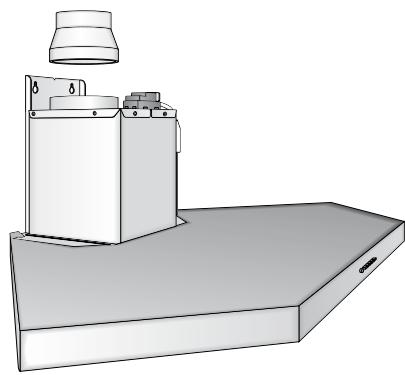

Fig. 5
- Fix the anchorage bracket for the closing panel to the cooker hood and lock into place the rear closing panel; finally insert from beneath the two (2) fixing screws (**Fig. 5**).